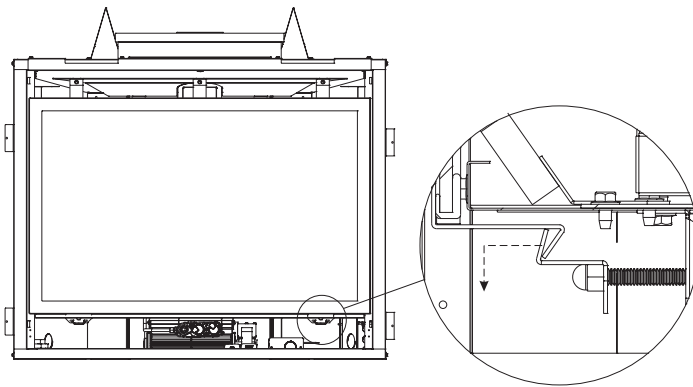

Figure 92
2. Disengage the two glass latches. Pull out and down on latch and then release. **See Figure 92.**